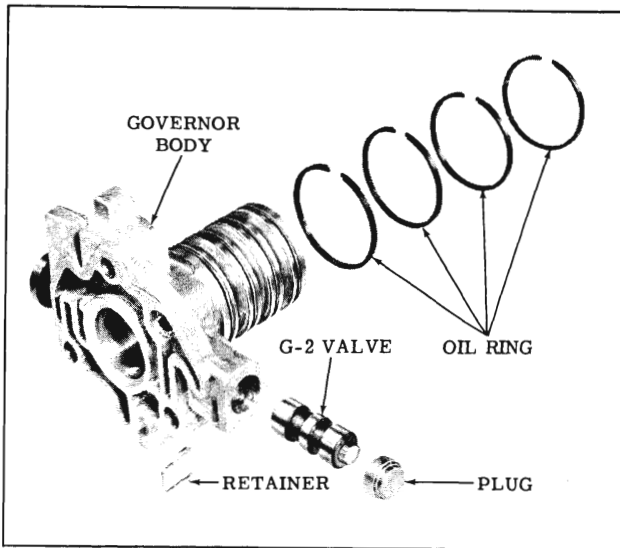

Fig. 3-271 Removing Governor Oil Rings
1. Inspect and remove, if necessary, 4 lock type oil rings. (Fig. 3-271)